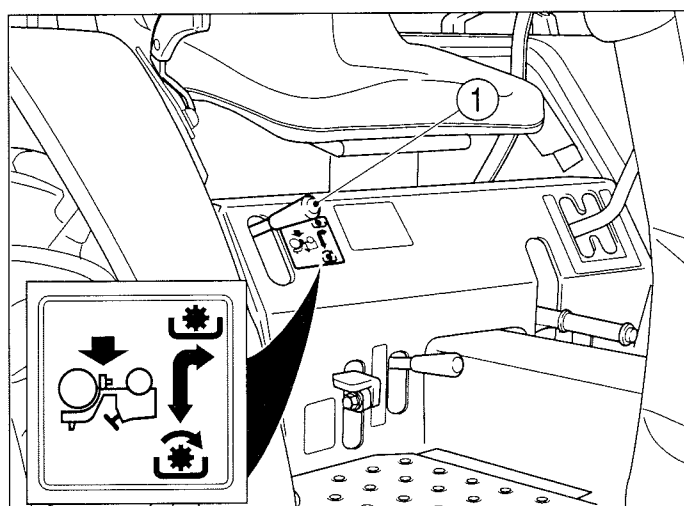

FIG. 53
FIG. 53 & 54: To select the mid mounted PTO, use the same procedure as outlined above, but use the mid PTO control lever. With the clutch pedal fully depressed move the lever (1) to  position to engage the PTO and to  position to disengage it.